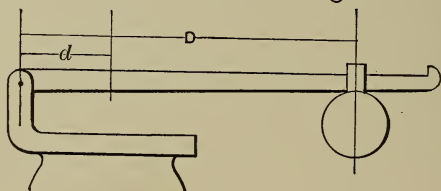

FIG. 161.—PRESSURE ON SAFETY-VALVES.
Where it is desired to calculate the effect of the pee two distances should be measured, as shown in Figure 161; that (d) from the fulcrum to the valve-stem and that (D) from the fulcrum (*not* from the valve-stem) to the pee. Then in the same proportion as that between d and D will the weight of the pee be